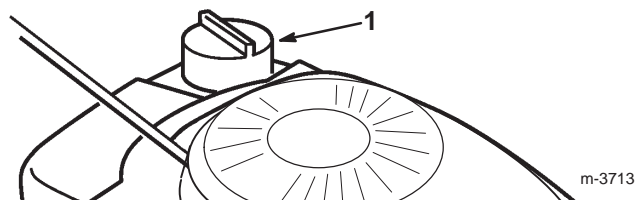

Figure 9
- Clean around the fuel tank cap (Fig. 9).
3. Remove the cap from the tank (Fig. 9).